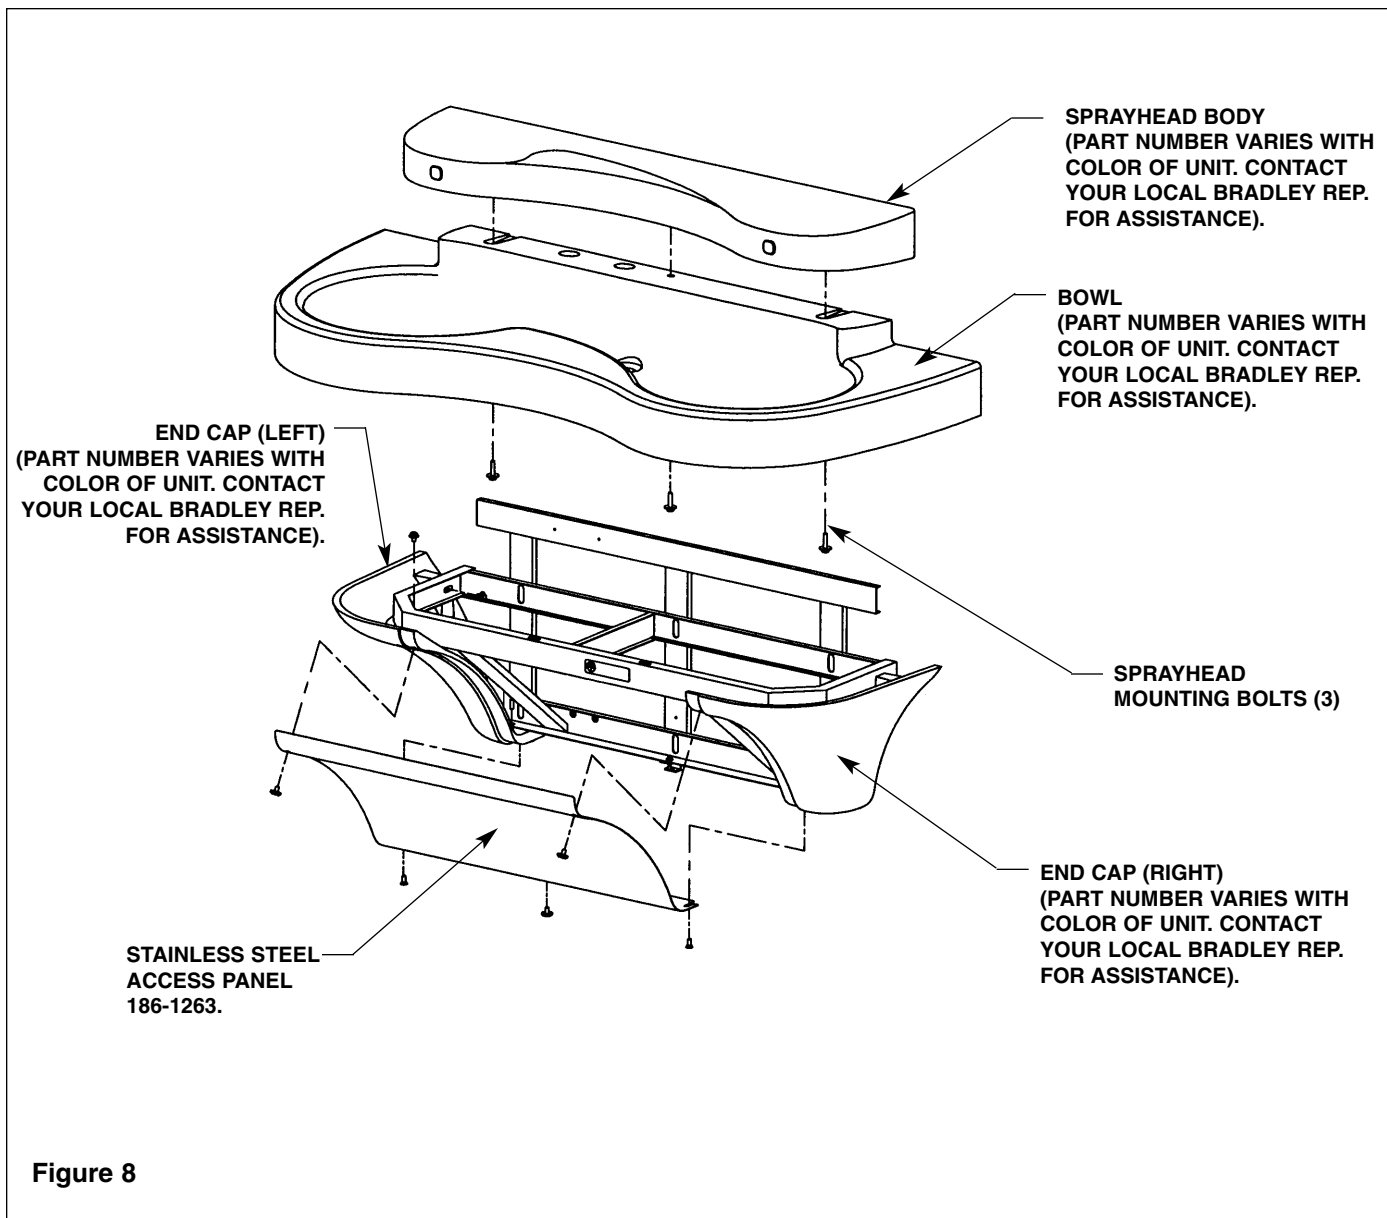

Figure 8
5. If necessary, adjust sprayhead body to fit closely to wall by adjusting sprayhead mounting bolts. See Figure 8 on page 14 for sprayhead mounting bolt locations.
Remove (3) bolts located underside of bowl neck (see Figures 8 and 10). Carefully remove sprayhead from bowl.
1. LED not illuminated — no power is getting to the sensor. Check for power at the 110 VAC wall outlet and from the wires from the 24 VAC transformer. If there is 110 VAC power at the wall outlet but no power from the transformer, touching the leads from the transformer while plugged in or a power surge may have burned out the transformer. Add surge protection at the outlet if a power surge is suspected and replace the transformer. If 24 VAC power is being supplied from the transformer, check for loose wire connections and also check connections against the wiring diagram (see Figure 8).